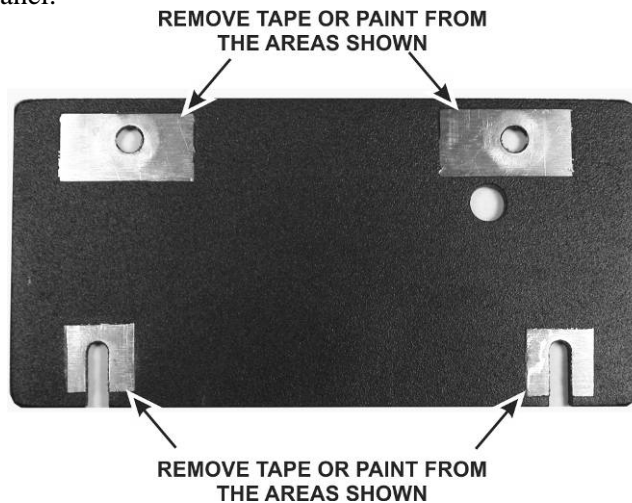

Figure 39. Preparing the Right Side Panel for Mounting.
□ Position the left side panel on the front panel assembly and install the two knurled nuts as shown in Figure 39. The knurled nuts must be installed first to ensure the nuts fit properly into recessed openings and contact the bare metal. Note that the knurled nuts have slots on the side facing away from the panel. You can tighten the nuts with a small screwdriver or other tool pressed gently in the slot. Take care to avoid scratching the paint.
- Unwrap the right side panel and clean it as needed (see Figure 39). The paint is **not** removed from any areas on the outside of this panel.